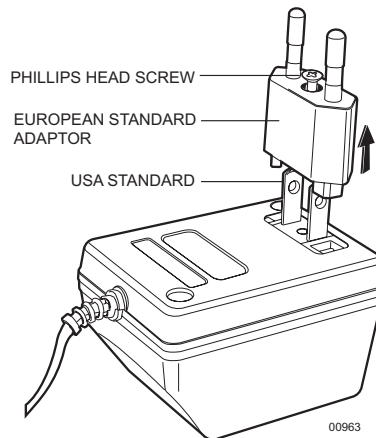

Figure 4. Power Adapter Plug for the RS-422 Converter
6. Plug power adapter into a power source. The standard European plug is attached to the power adapter. To convert the adapter to the USA standard loosen the Phillips head screw and remove the European plug (refer to Figure 4).